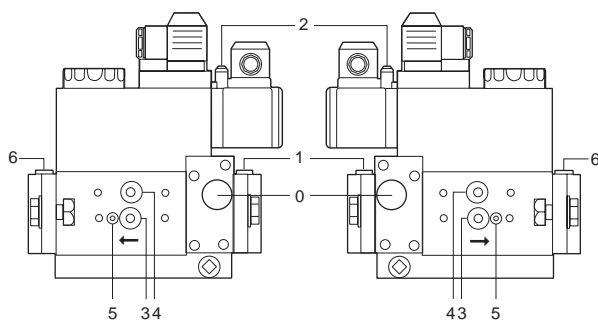
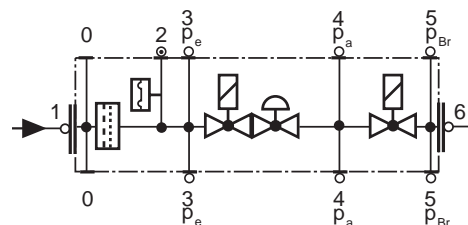

Fig. 12
Fig. 13
- Change the filter if the pressure difference between pressure connection 1 and 3 (Fig. 12-Fig. 13) is $\Delta p > 10$ mbar.
- Change the filter if the pressure difference between pressure connection 1 and 3 (Fig. 12-Fig. 13) is twice as high compared to the last check.